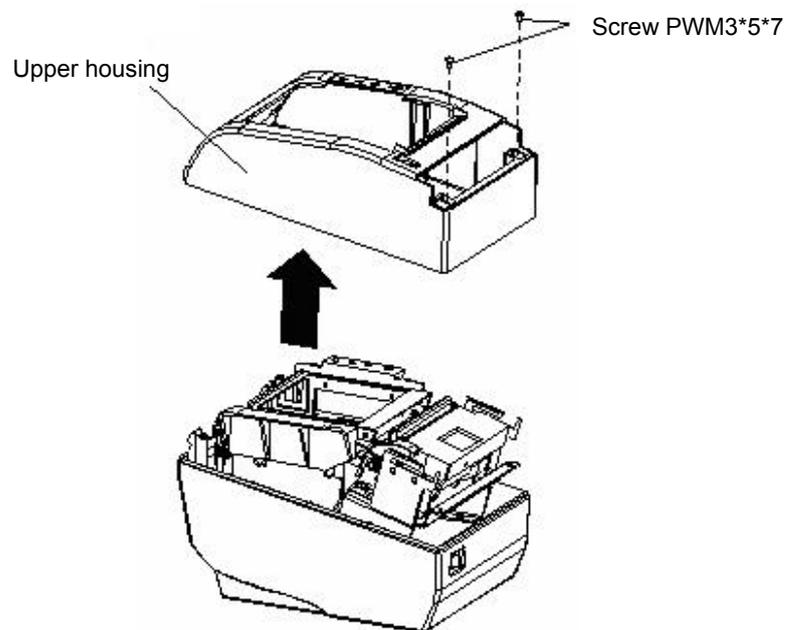

Figure 5-3
Step2. As Figure 5-3 shown, loosen the screws PWM3*5*7;